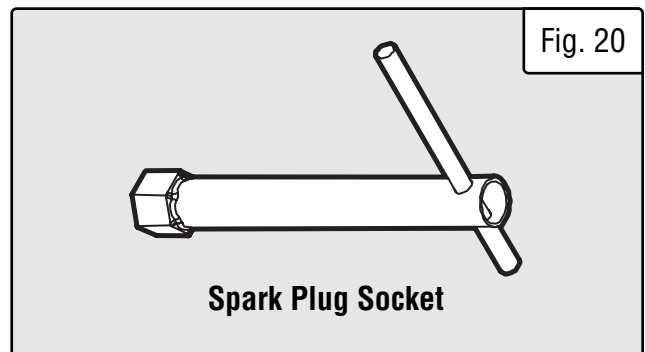

Fig. 20
2. Use the included spark plug socket (Fig. 20) to unscrew and then carefully remove the spark plug from the engine.